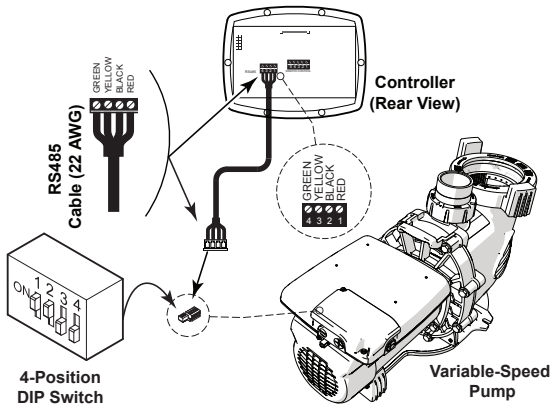

Figure 5. Wiring JEP-R VSP Controller
4. Attach the four (4) RS-485 cable wires to the RS-485 connector. Match the wire colors with the positions on the connector: See Figure 5.
6. Dip switches 1 and 2 must be in the ON position, and switches 3 and 4 must be in the OFF position. See Figure 5.